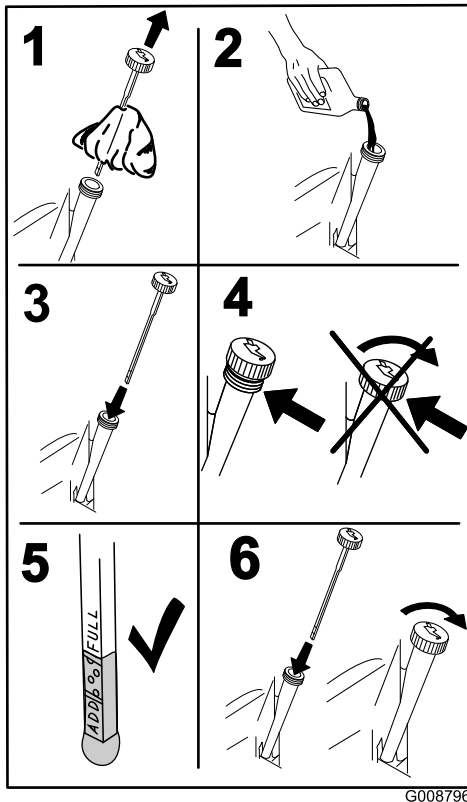

Figure 40
- Remove the dipstick and wipe it with a clean cloth (Figure 40).